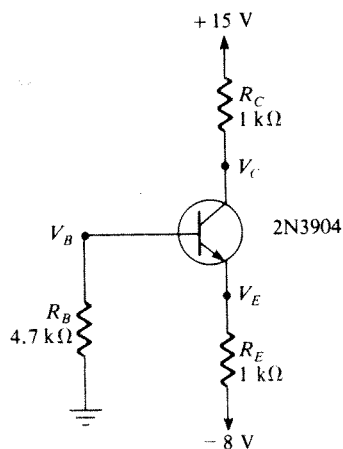
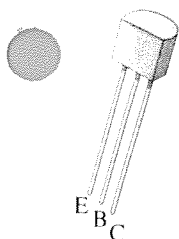

FIGURE 10-1 Schematic diagram of circuit.
FIGURE 10-2 2N3904 pin diagram.
1. Wire the circuit shown in the schematic diagram in Figure 10-1, and apply power to the breadboard. The pin diagram for the 2N3904 is given in Figure 10-2.